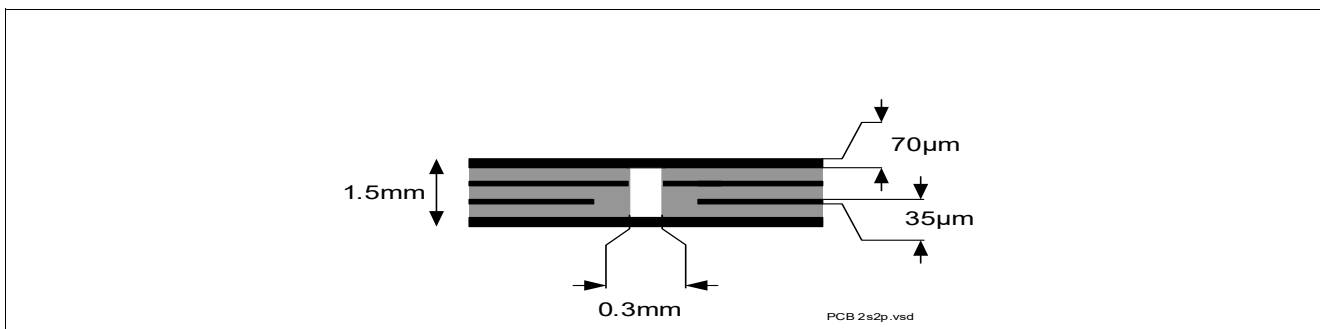

Figure 4 2s2p PCB Cross-Section
2) Specified R_{thJA} value is according to JEDEC JESD51-2,-5,-7 at natural convection on FR4 2s2p board with 1 W power dissipation equally dissipated for both channel at $T_A=105^\circ\text{C}$; The product (chip + package) was simulated on a 76.4 x 114.3 x 1.5 mm board with 2 inner copper layers (2 x 70 μm Cu, 2 x 35 μm Cu). Where applicable, a thermal via array under the exposed pad contacts the first inner copper layer. Please refer to **Figure 4**.